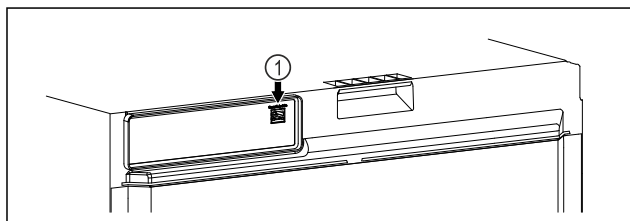

Fig. 105
- ❑ SmartModule Fig. 105 (1) has been inserted.